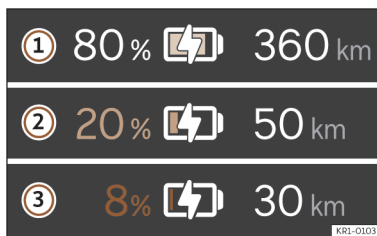

Fig. 3 On the digital instrument cluster: range and reserve indication.
The current state of charge of the high-voltage battery is indicated by the symbol  on the digital instrument cluster >>> **Fig. 3 ①**. The battery symbol will be more or less full depending on the state of charge of the battery.
The vehicle range is displayed in kilometres (km) or miles (mi) depending on the selected setting >>> **Fig. 3 ②**.
Reserve area >>> Fig. 3